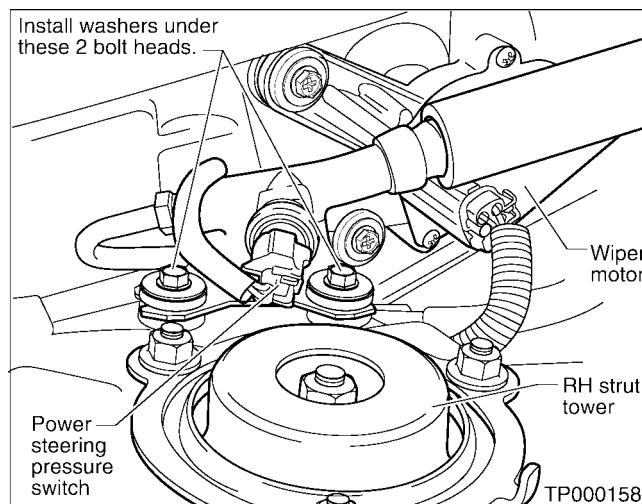

Figure 1
1. Add one washer to each bolt for the power steering switch bracket (see Figure 1).